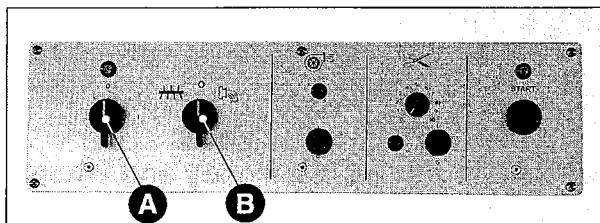

Fig. 15
- stop the machine, setting the ON/OFF switch (**Fig. 15 A**) and other switches as well to "0";
- turn the selector (**Fig. 15 B** - previous page) to the kneading position  for 10-15 seconds so as to remove pressure from the die due to the dough;
- turn off the machine pressing the general switch (**Fig. 15 A** - previous page);